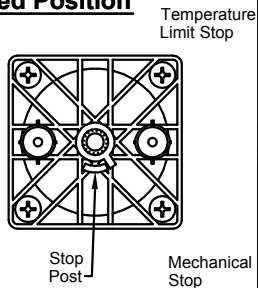

Fig. 8
- After plastering and/or tiling is complete, remove plastic installation cover and plastic diverter cover (if applicable) - See Fig. 4. Make sure stem broach (See Fig. 8) is completely in the off position. (Fully rotate clockwise)
All *California Faucets* pressure balance valves are equipped with a Temperature Limit Stop. This device (see Fig. 8), can be adjusted to limit the maximum temperature of the water delivered by the valve. The Temperature Limit Stop is set at the factory in a neutral position. Set or adjust as follows:
- 2 Rotate stem broach clockwise to fully closed position ( See Fig. 8).
- 3 Remove stem broach by inserting a long, narrow Phillips head screw driver into the center of the broach and unscrewing the internal screw. Lift off thin brass temperature limit stop (See Fig. 9). Rotate stem broach fully closed and make sure mechanical stop is to the right against stop post ( See Fig. 8). Rotate broach counter clockwise until the desired maximum temperature is reached. Replace temperature limit stop so it rests at the left side of the stop post ( See Fig. 11).
- 1 Remove valve handle, faceplate and stem broach as described above. **Important: Make sure broach is in the off position and note the settings of the mechanical stop and the temperature limit stop (See Fig. 8).**
- 9 Rotate stem broach fully clockwise, fit mechanical stop and temperature limit stop as above ( See Fig. 8).